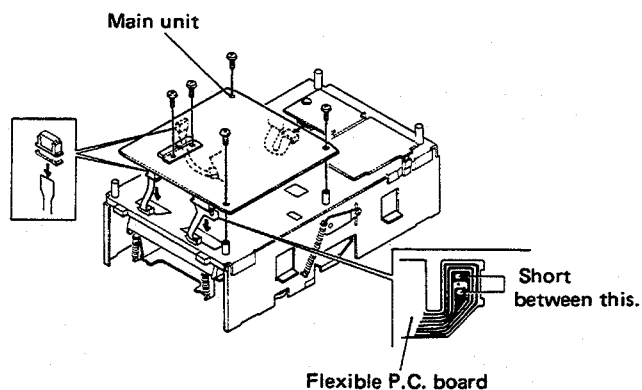

Fig. 6
2. For pickup unit (CGY 1006) handling, please refer to "Disassembly" (Fig. 6). During replacement, handling precautions shall be taken to prevent an electrostatic discharge (protection by a short pin).